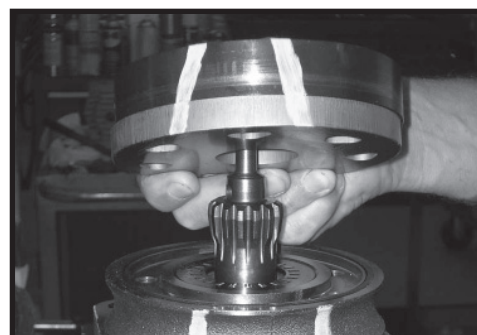

Figure 14
10. Remove rotor set (8) and wearplate (9), together to retain the rotor set in its assembled form, maintaining the same rotor vane (8C) to stator (8B) contact surfaces. SEE FIGURE 14. The drive link (10) may come away from the coupling shaft (12) with the rotor set, and wearplate. You may have to shift the rotor set on the wearplate to work the drive link out of the rotor (8A) and wearplate. SEE FIGURE 15. Inspect the rotor set in its assembled form for nicks, scoring, or spalling on any surface and for broken or worn splines. If the rotor set component requires replacement, the complete rotor set must be replaced as it is a matched set. Inspect the wearplate for cracks, brinelling, or scoring. Discard seal ring (4) that is between the rotor set and wearplate.